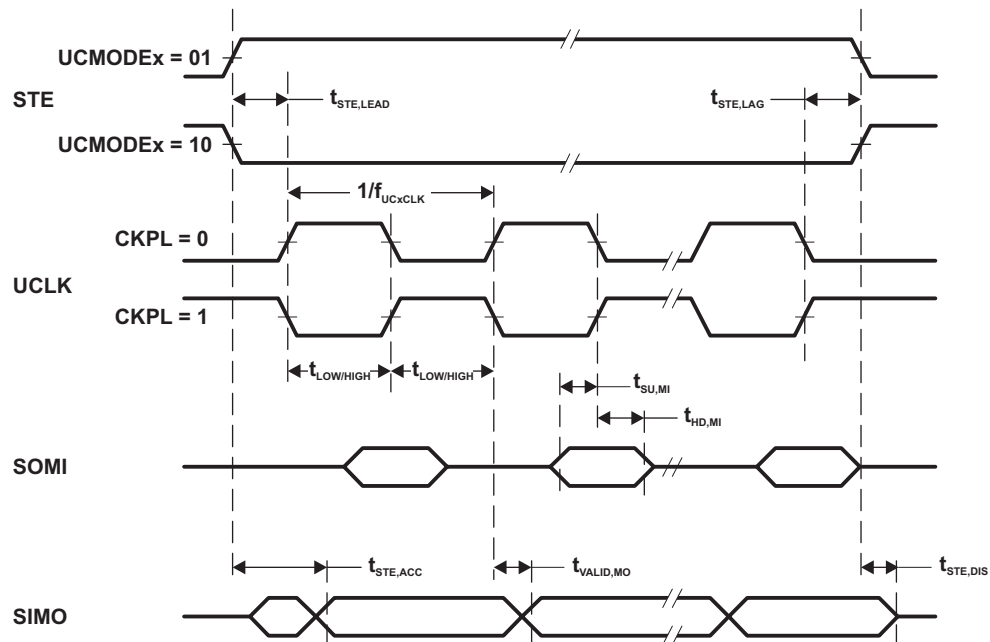
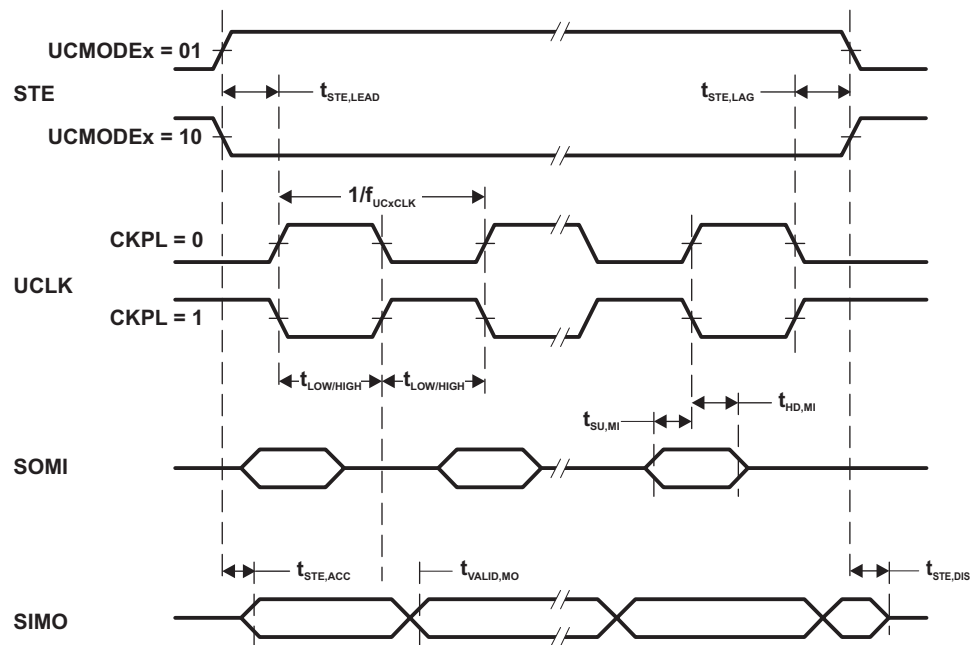

Figure 4-6. SPI Master Mode, CKPH = 0
Figure 4-7. SPI Master Mode, CKPH = 1
- (1) $f_{UCxCLK} = 1/2t_{LO/HI}$ with $t_{LO/HI} = \max(t_{VALID,MO}(eUSCI) + t_{SU,SI}(Slave), t_{SU,MI}(eUSCI) + t_{VALID,SO}(Slave))$. For the slave's parameters $t_{SU,SI}(Slave)$ and $t_{VALID,SO}(Slave)$ see the SPI parameters of the attached slave.
- (2) Specifies the time to drive the next valid data to the SIMO output after the output changing UCLK clock edge. See the timing diagrams in Figure 4-6 and Figure 4-7.
- (3) Specifies how long data on the SIMO output is valid after the output changing UCLK clock edge. Negative values indicate that the data on the SIMO output can become invalid before the output changing clock edge observed on UCLK. See the timing diagrams in Figure 4-6 and Figure 4-7.